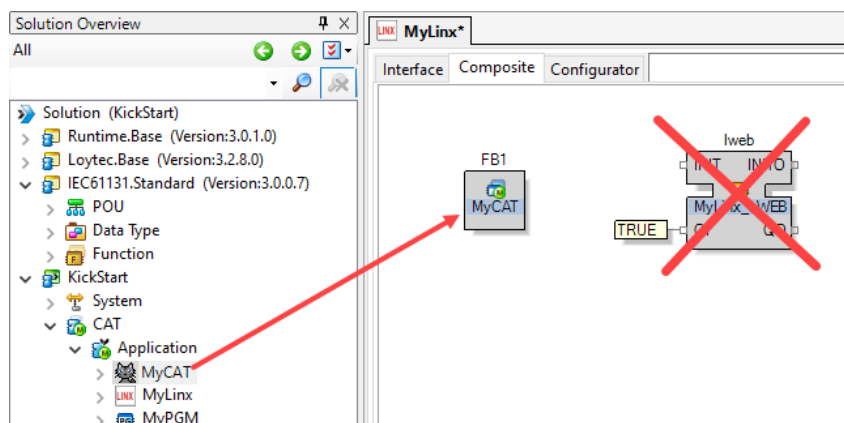

Figure 49: Create a CAT instance within the device CAT.
18. Open the device 'MyLinx' and go to the **Composite** tab. Drag the 'MyCAT' from the solution tree onto the composite tab to create a CAT instance (see Figure 49). You may also delete the 'lweb' block as it is not needed.